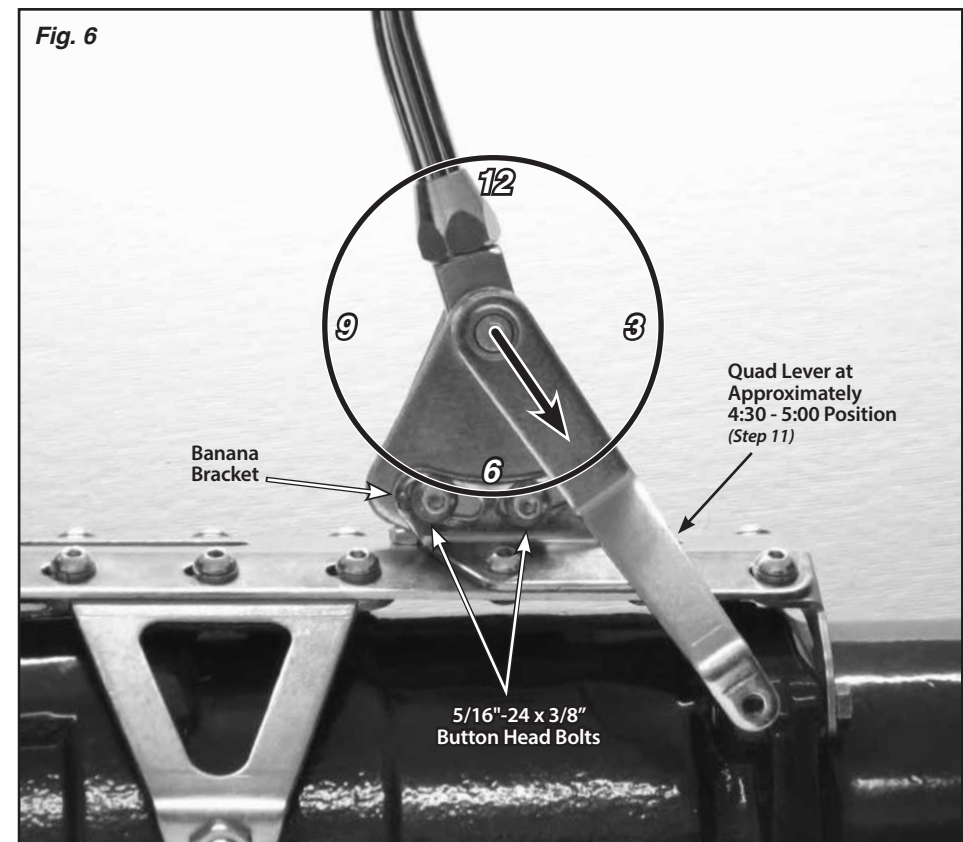

Fig. 6
**Step 10:** Make sure the two 5/16"-24 x 3/8" button head bolts that attach the left side banana bracket to the shifter assembly (in the curved, slotted holes) are tight. Before tightening the shifter assembly down to the main plate, move the shifter lever through all the gear positions. Make sure that the shifter lever and knob will not come in contact with the dash or the seat. The shifter assembly can be tilted forward or backward if needed by loosening the 5/16"-24 x 3/8" button head bolts in the curved, slotted holes in the left side banana bracket. **Fig. 6**
**Step 11:** Put the shifter lever into the Park position and check the position of the quad lever. It should be pointing to approximately the 4:30 - 5:00 position. If it is not, loosen the set screw in the top of the quad lever with a 1/8" Allen wrench and slide the quad lever off of the shaft. Reposition it on the shaft at approximately the 4:30 - 5:00 position, and retighten the set screw. **Fig. 6**